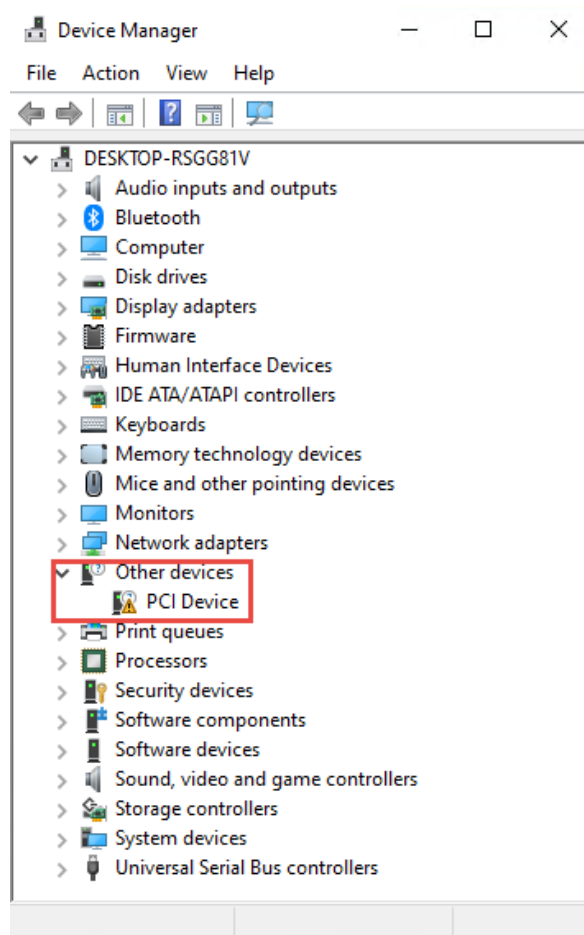

Figure 4-6 PCI Device in the Device Manager
7. Open the **Device Manager** in the Win10, you may see an unknown “**PCI Device**” (See **Figure 4-6** ), that means the PCIe design is detected by the Host via Thunderbolt 3 interface. If the PCI device does not appear in the Device Manager, please re-plug the Thunderbolt cable again then check again.